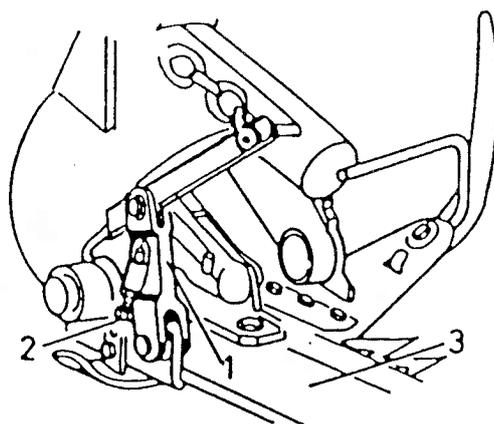

Figure 6
1. AJUSTEMENT DE LA CHAPE DE REGLAGE (figure 6)